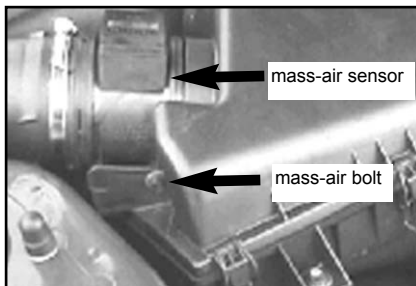

Fig. 1
1. Carefully disconnect the Mass Air Sensor electrical connector. (Fig. 1)
3. Remove the 3 bolts securing the Mass Air Sensor to the airbox lid. There are 2 bolts on the driver's side of the airbox lid and 1 bolt on the passenger's side. (Fig. 1 & 2)